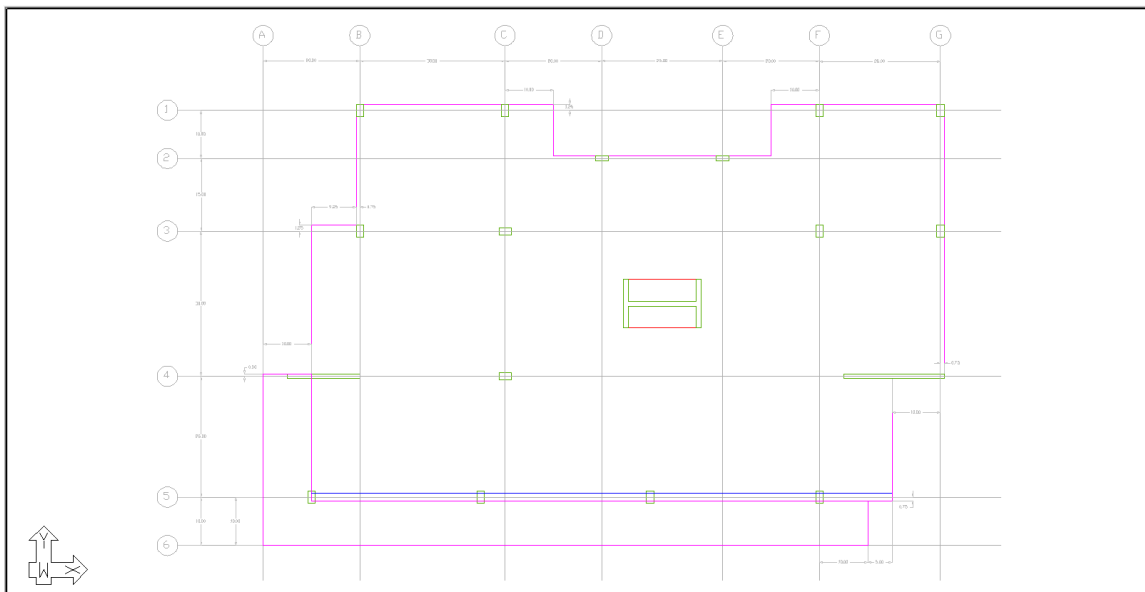

FIGURE 3-5
- Click on the **Zoom Extents**  icon. The model space should now look like **FIGURE 3-5**.